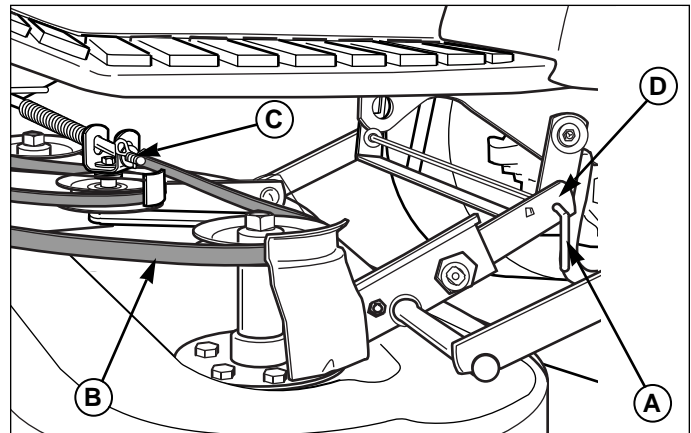

Figure 5. Mower Deck - Left Side (38" Deck Shown)
6. Remove the hair pin clip from the long hitch rod (A, Figure 5).
7. Remove the hitch rod (A, Figure 5) from the mower.
9. Turn wheels fully left, and slide mower deck out from under the right side of the tractor. Reinstall the hitch rod and hair pin clip (A, Figure 5) in the mower.
4. Turn the wheels straight ahead and align the rear mounting brackets (D, Figure 5).
6. Install the long hitch pin (A, Figure 5) through the rear mounting brackets. Secure with a hair pin clip.